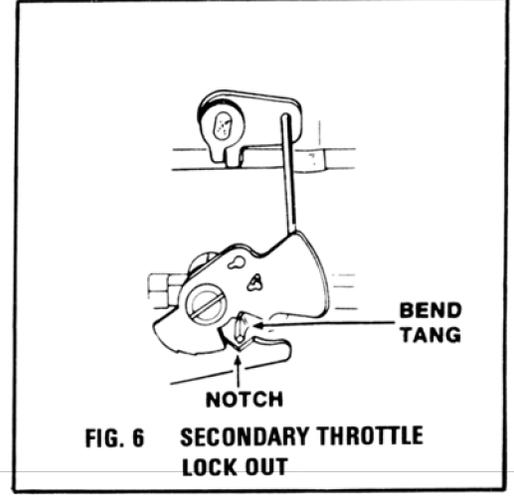

FIG. 6 SECONDARY THROTTLE LOCK OUT
## SECONDARY THROTTLE LOCK OUT (FIG. 6)
b. The second method is different because of the index mark on fast idle cam. (See figure 6.) When the mark is present, adjust as follows: Hold choke lever closed and make sure that the two levers on end of choke shaft are in contact with each other. Hold parts in this manner and align end of fast idle screw with index mark on fast idle cam. To adjust, bend fast idle rod as shown.